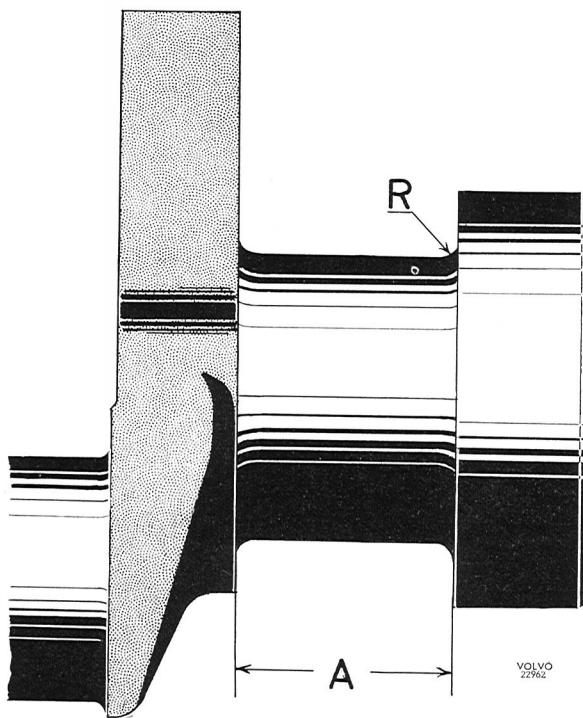

Fig. 2-44. Bearing journal
The fillets at the ends of the journal should have a radius of 2.0—2.5 mm (.080—.100") on all journals, see Fig. 2-44. The width measurement (A) for the pilot bearing depends on the size of the journal and should be ground in order to obtain the correct measurement.